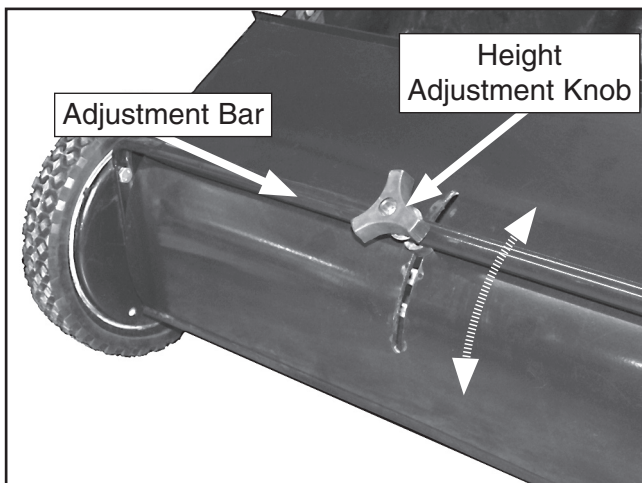

Figure 8. Height adjustment.
1. Loosen the height adjustment knob, then slide the adjustment bar downward to raise the brushes or upward to lower the brushes. When the desired height is reached, tighten the height adjustment knob (**Figure 8**).